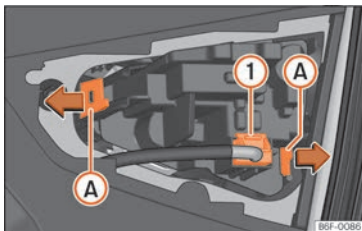

Fig. 54 Remove the bulb holder.
- Remove the bulb connector »» **Fig. 54** ①.